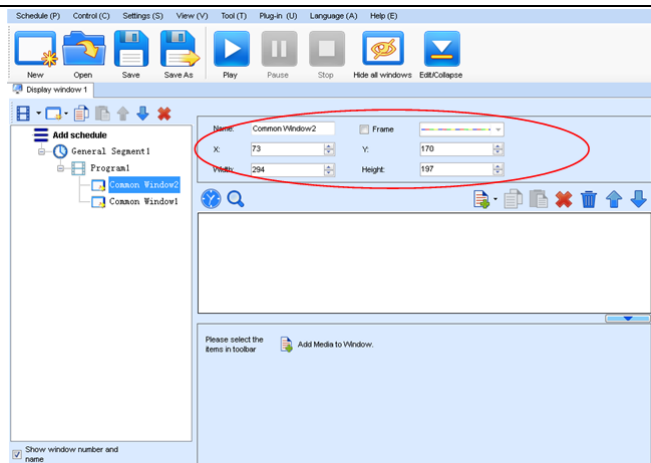

Fig 4-13 Setting the Window Size
- Directly specify the new location and size in the setting pane, as shown in Fig 4-13: